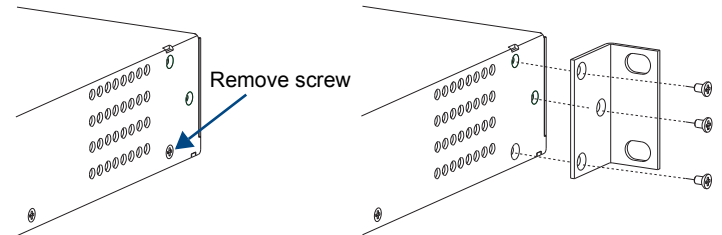

FIG. 3 Remove screw and attach rack ears
1. Remove one screw from each side of the module as shown in FIG. 3. Do not reuse screw for rack ear.
2. Attach rack ears as shown in FIG. 3 (screws provided).